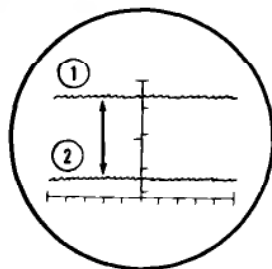

Figure 3
- () Carefully adjust the signal generator to the point where the CRT trace moves as far above the screen base line as it will go, as shown at 1 of Figure 3. Reduce the signal generator output if the CRT trace moves upward and completely off the tube screen.
- () Adjust the slug of coil L1 until the CRT trace moves down toward the screen base line. The correct adjustment of L1 is at the point where the CRT trace moves the closest to the screen base line. See 2 of Figure 3.